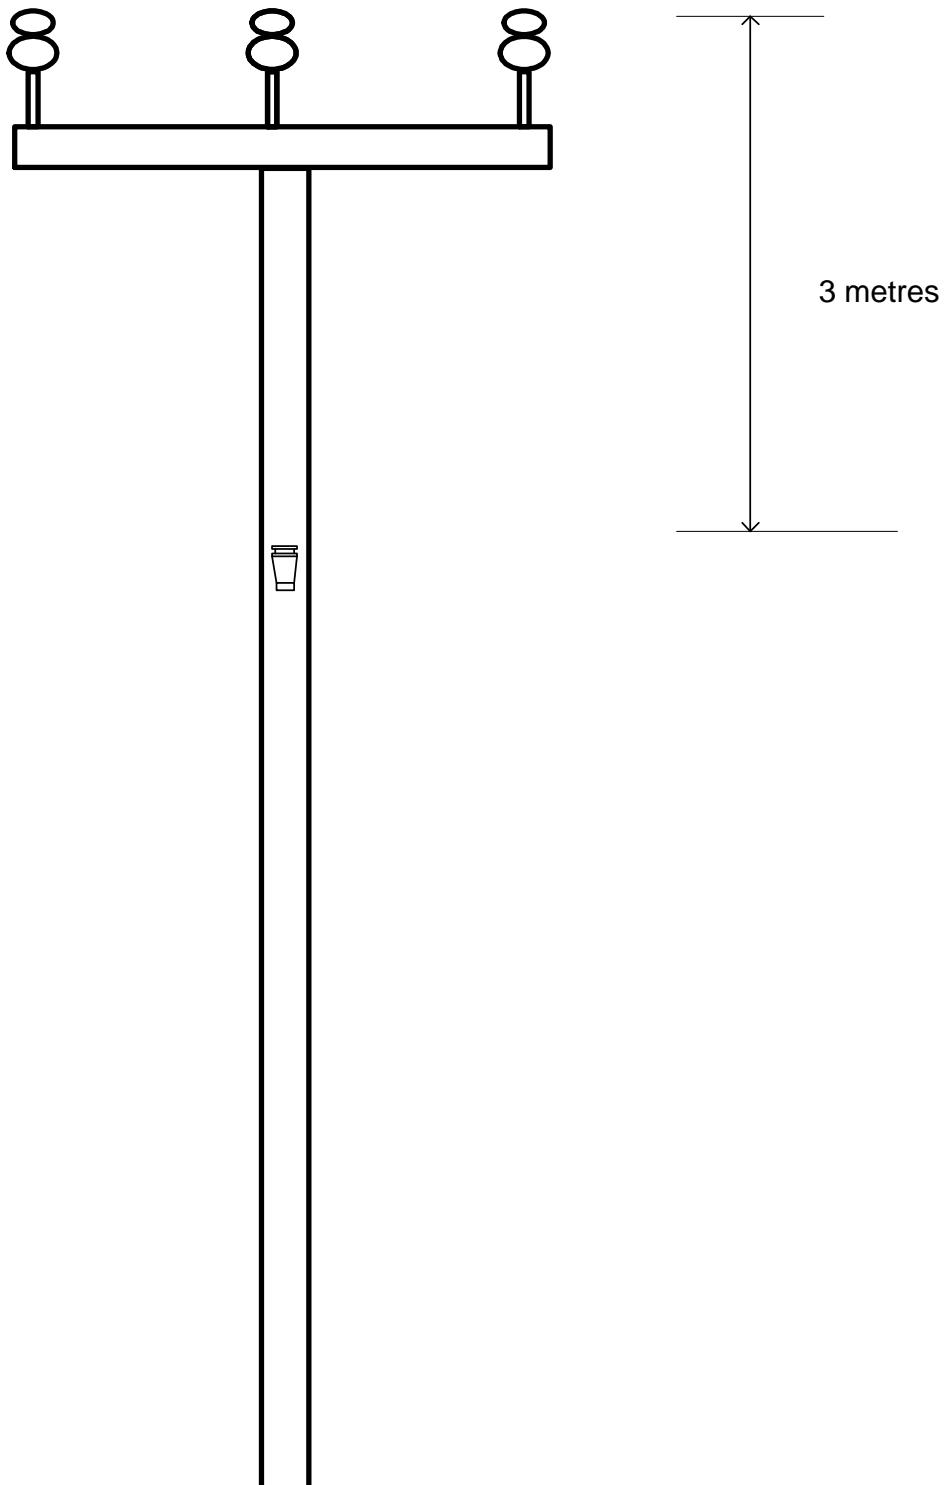

Figure 1.
- 4.2 Swipe the magnet along the arrow on the label 'SWIPE MAGNET TO TEST' as if striking a match. See FIGURE 1. The bright RED LED will begin to flash for about 5 seconds and then stop. The bright WHITE LED will immediately commence flashing with an intense white light. (at intervals of between 10 & 12 secs) This is a correct instrument test result. If the instrument fails to operate carry out a battery test or call Bowdens (01306 743355)
The body of the instrument must be positioned exactly below and in line with the centre phase conductor with the lens facing vertically downwards. See FIGURE 1.
Ensure that the matching 'O' ring surfaces are clean and dry with a smear of silicone grease over each. Replace instrument cap and screw down hand tight so that the alignment marker is in line with the centre of the anodised aluminium bracket. See Figure 1.